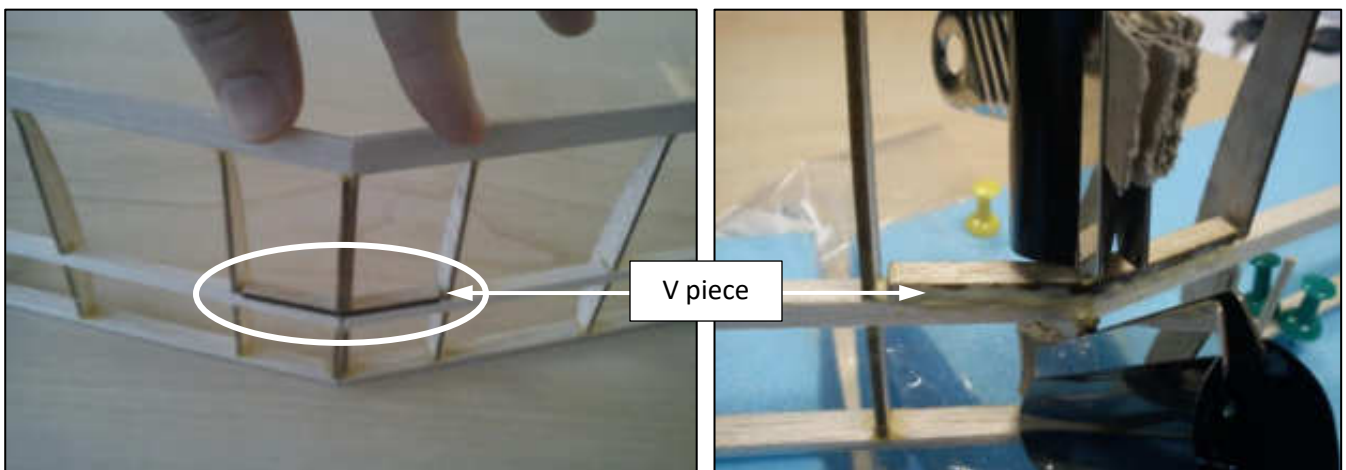

Figure 11: Glue the wings together using the 'V' connector.
11. Use the central 'V' piece of wood to join both wings. Glue both wings together, applying plenty of glue to the central ribs and the 'V' piece. Use clamps to hold the wings together while the glue dries, Figure 11.